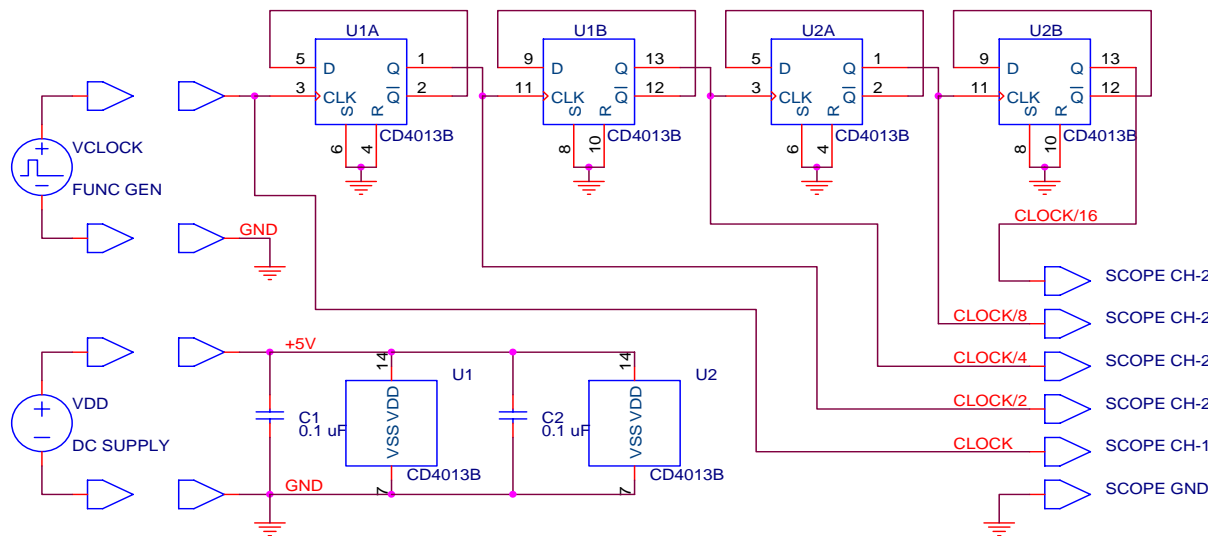

Figure E5.9
Completely clear all of the existing parts from the solderless breadboard and use two CD4013B dual D-FFs to implement the four flip-flops in the circuit shown in Fig. E5.9. Use the following parts:
Note carefully that the SET and RESET (S and R) inputs to each flip flop (pins 4, 6, 8, and 10 on each IC) must be connected to ground. After checking your circuit connections, connect the power supply leads to the breadboard. Configure a function generator to output a 10 kHz squarewave which makes transitions from a maximum of +5.0 V to a minimum of 0.0 V. Apply this input signal to the clock input of the first flip flop, as shown above in Fig. E5.9. Use an oscilloscope to monitor the output of the function generator on Ch-1. Use Ch-2 of the oscilloscope to examine the Q output of each of the four flip flops (one at a time, of course).
- The circuit of Fig. E5.9 is also known as a binary ripple counter.